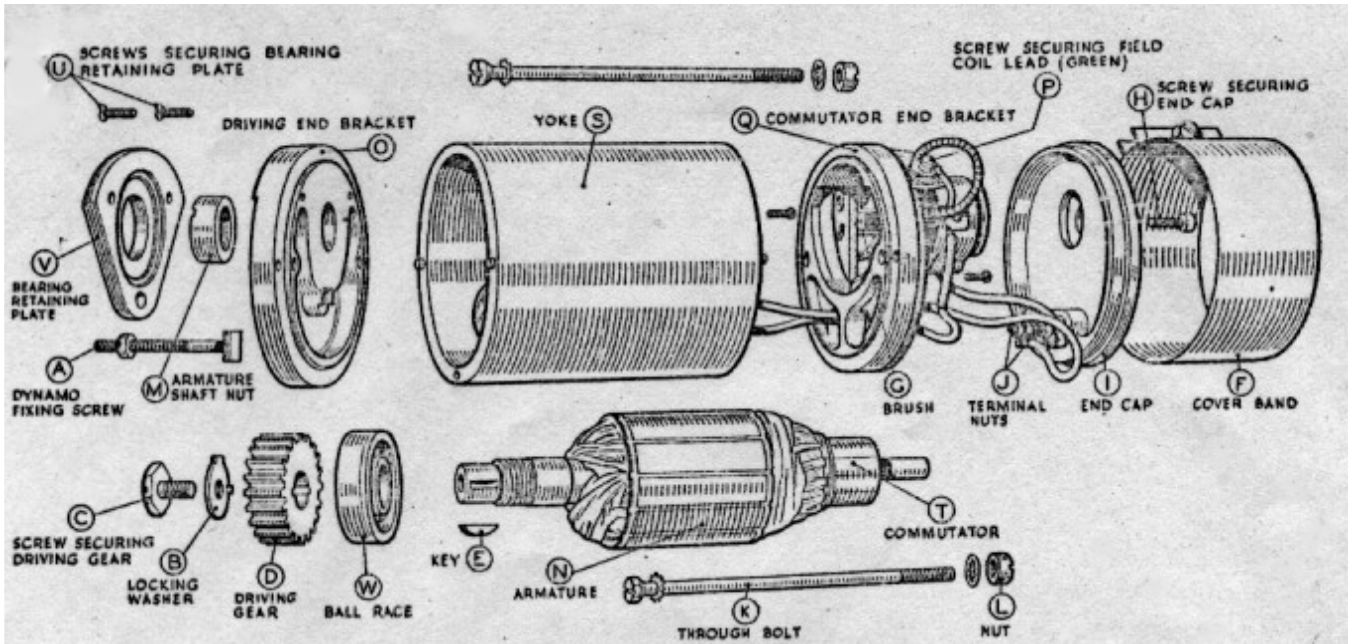

Fig. 59. Exploded view of dynamo
When replacing, slide the dynamo through the band clip so that fixing screw (A, Fig 59) passes through its hole in the end cover and the gears mesh correctly. Tighten the end nut and the band clip fixing screws and remake the connections to the dynamo terminals
**B (3) Dynamo – Dismantling**
- (a) Bend back the tag on the washer (B, Fig. 59) locking the screw (C) securing the driving gear (D) and remove the screw. Withdraw the gear from the dynamo shaft by carefully levering it off by means of an extractor. Remove the key (E) from the shaft.
- (b) Remove the cover band (F), hold back the brush spring and lift the brushes (G) from their holders.
- (c) Take the screw (H), with spring washer, from the centre of the black moulded end cap (I). Draw the cap away from the end bracket, take off nuts (J) and spring washers, and lift the connections off the terminals.
- (d) Unscrew and remove from the driving end bracket, the two bolts (K) securing the driving end bracket (O) and commutator end bracket (Q) to the dynamo yoke (S). Hold the nuts (L) at the commutator end whilst unscrewing the bolts, and take care not to lose the nuts.
- (e) Draw the armature (N) complete with end bracket (O) out of the yoke.
- (f) Unscrew the nut (M) from the driving end of the dynamo shaft and remove the armature from the end bracket, using a hide or wooden mallet.
- (g) Take out the screw (P) securing the green field coil lead with the yellow sleeve to commutator end bracket and remove the end bracket (O), withdrawing the connectors through the slot in the insulating plate.
**B (4) Dynamo Brushes.**
The ball bearing (W, Fig. 59) at the driving end is replaced as follows:-